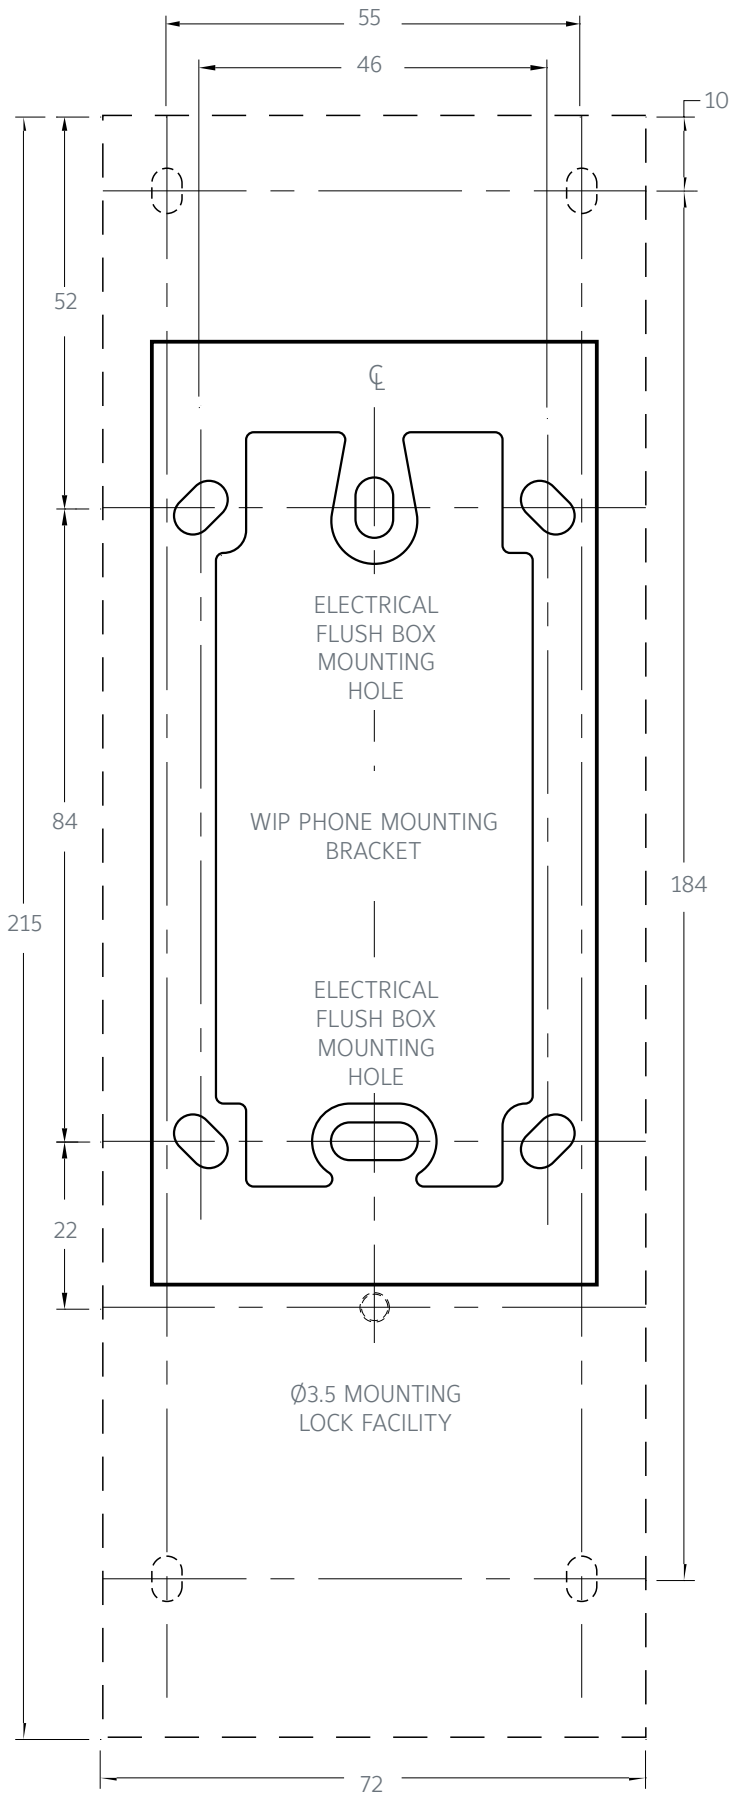

Figure 1 Mounting Bracket Detail
1. **Using the supplied bracket** - screw the bracket to the wall or to a standard electrical flush box. Slide the phone onto the bracket. See Figure 1 for hole locations. Note that an additional screw through the phone's base into the wall will prevent the phone from being easily removed from the bracket.